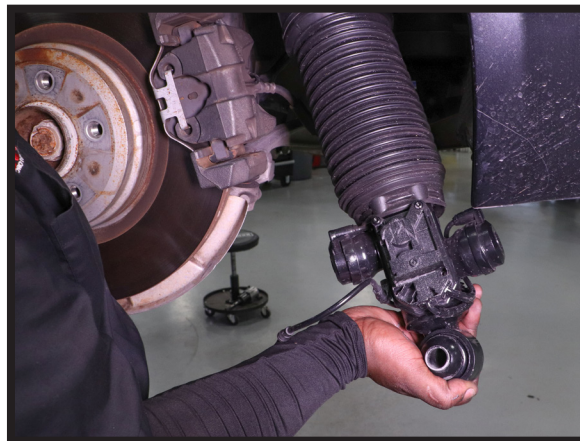

FIGURE 18
12. REMOVE THE SHOCK FROM THE VEHICLE. (FIGURE 18)